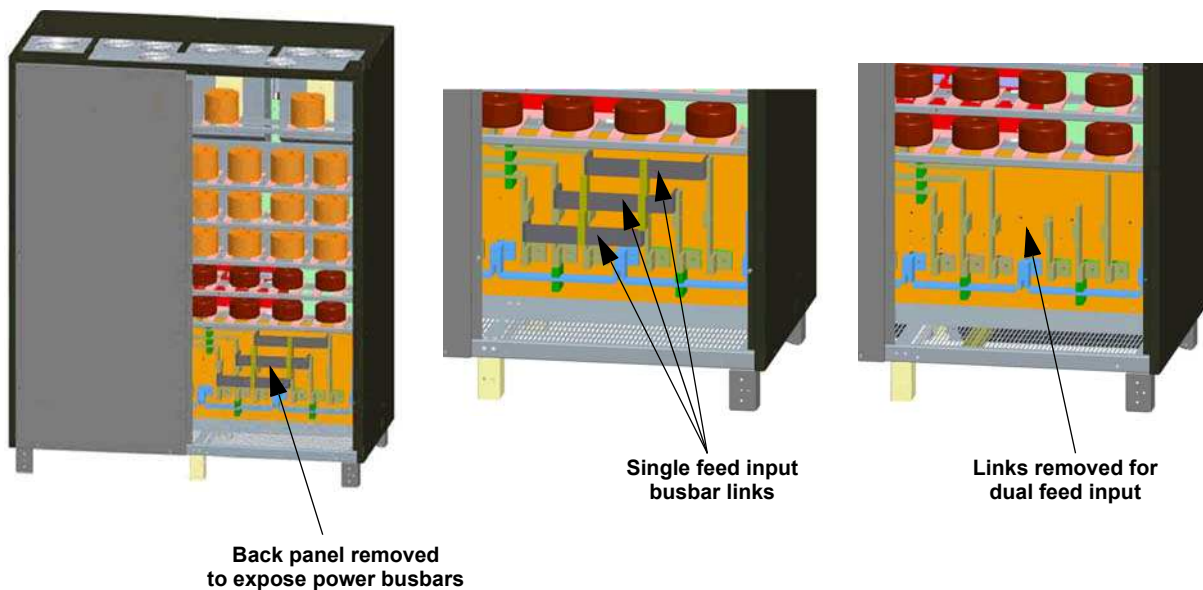

Figure 3.23 Input configuration for 400kVA/500kVA models
3. Remove the three busbar links identified in Figure 3.23. They are secured by 6x M10 nuts and bolts.